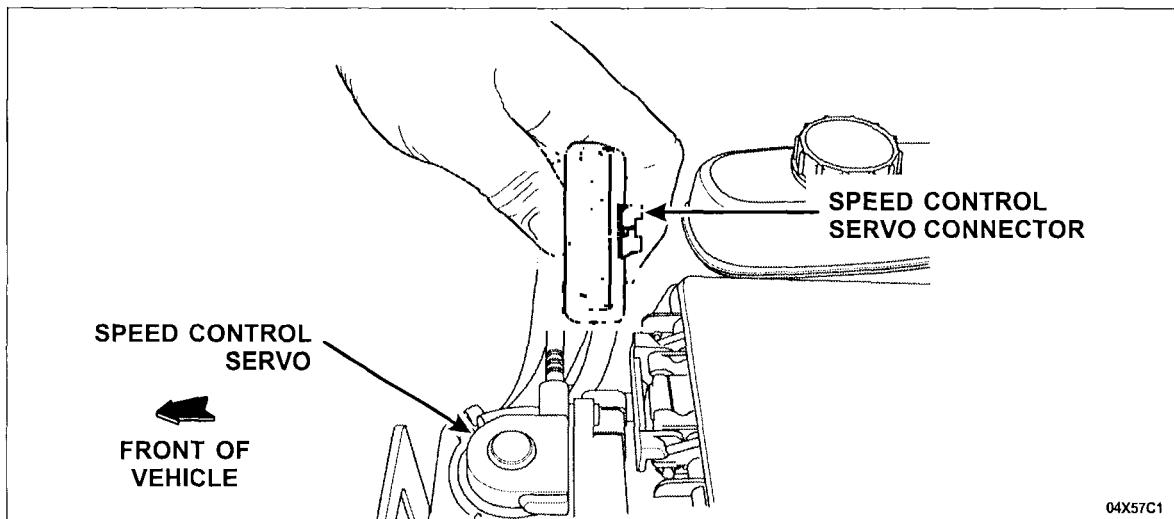

FIGURE 3
- If brake fluid is present, disconnect the speed control servo and inspect the vehicle harness connector for heat damage. See Figure 3.